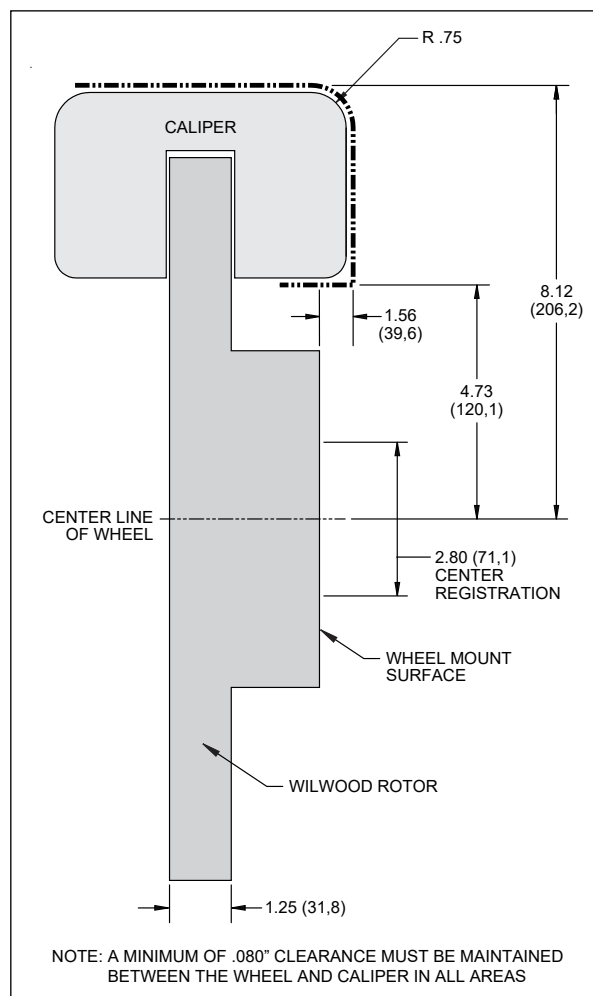

Figure 2, Wheel Clearance Diagram
- Review the wheel clearance diagram (figure 2, page 3) to verify that there is adequate clearance with the wheels you will be using with the installation.
•Verify your wheel clearance using Figure 2.